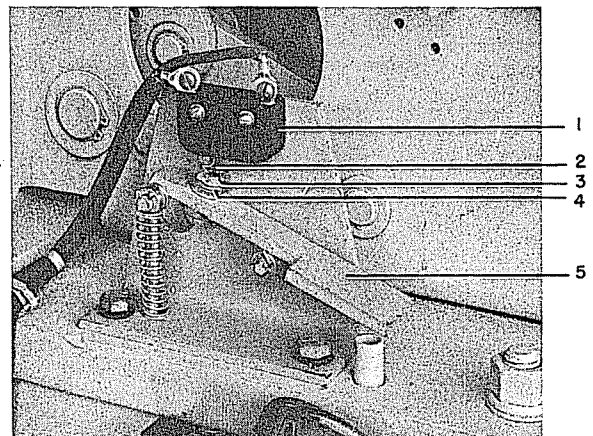

Figure 5 (8021970) Cut-off Switch
The operating sequence for those breakers designed for MI-6 metal-clad equipment is similar to that described above except that a relay mounted elsewhere in the metal-clad unit replaces the control device. Also, a cut-off switch (Figure 5) is used to replace the mechanical trip arrangement of the control device. The cut-off switch energizes an auxiliary relay to de-energize the main relay.
Refer to Figure 5. The lever arm (5) is set at the factory and will require no adjustment. With the breaker in the open position, depress the arm of the cut-off switch (1). There should be 1/32" to 1/16" clearance between the depressed roller of the switch and the striker (3). Washers (4) should be added or removed if necessary to correct adjustment.